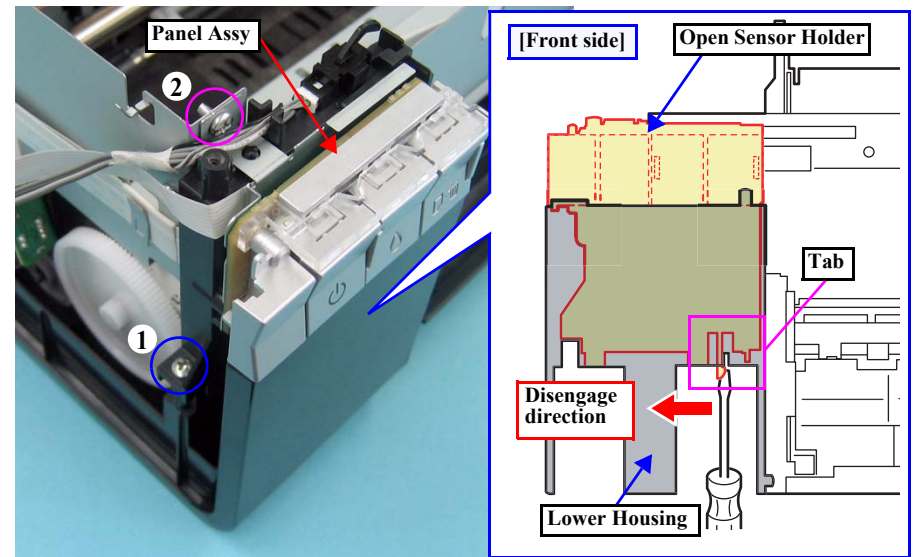
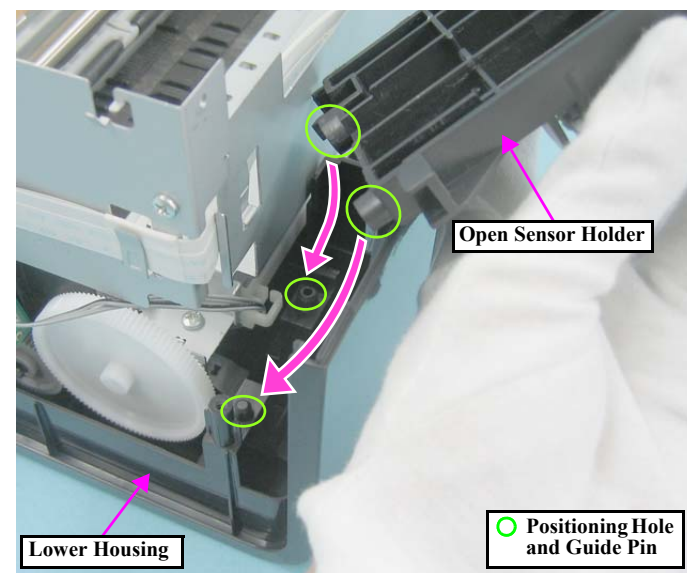

Figure 4-24. Removing the Panel Assy (2)
Figure 4-27. Installing the Panel Assy (2)
When removing the screw (2) shown in Fig.4-24, be careful not to damage the Cover Open Sensor Cable and CDR Sensor Cable.
- Tighten the screws in the order given in Fig.4-24.
- As shown in Fig.4-24 (p.67) and Fig.4-27, match the positioning holes of the Open Sensor Holder with the guide pins of the Lower Housing, and secure the Open Sensor Holder with the tab.